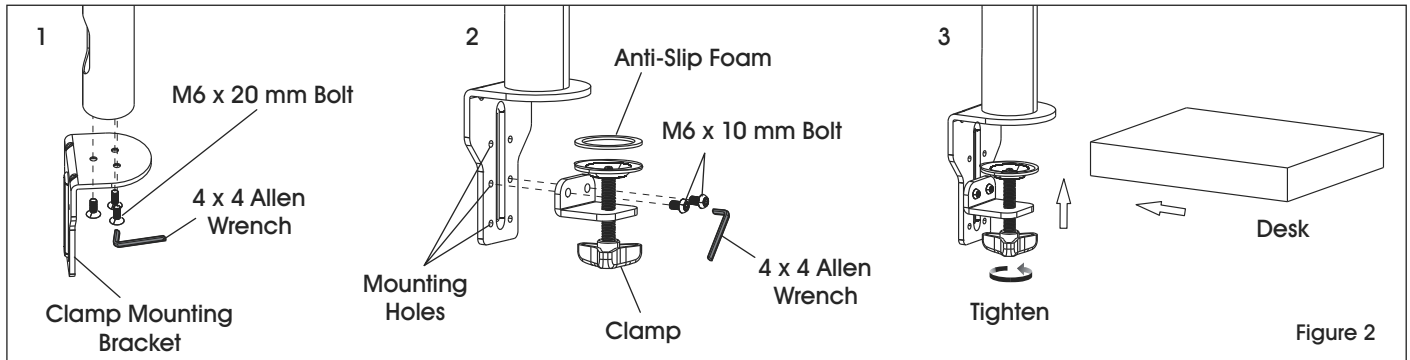

Figure 2
1. Attach clamp mounting bracket (5) to bottom of tube (4) using M6 x 20 mm bolts (C) and 4 x 4 Allen wrench (F). (See Figure 2)